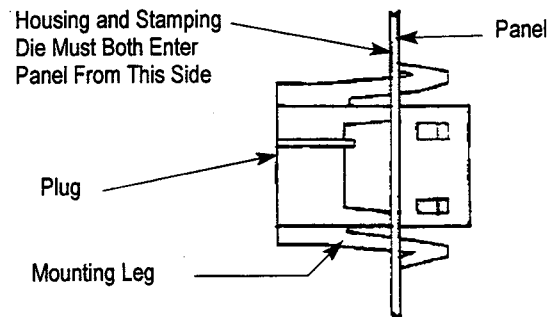

Figure 4
*Be sure to stamp cutout from side of panel thru which housing will enter. See Figure 4.*
- To install plug in panel, squeeze mounting legs together and push plug straight through panel (mating face first) until mounting leg engages panel. See Figure 4.